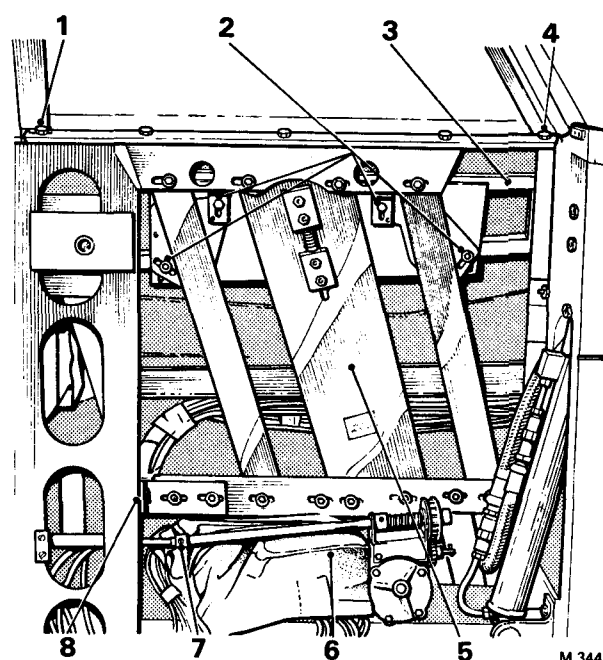

FIG. S60 REAR QUARTER WINDOW MECHANISM (Convertible Cars)
Convertible cars (see Fig. S60)
9. Scribe the profile of the window mounting brackets onto the lift mechanism bracket (*see Fig. S60*); ensure this is carried out accurately to facilitate assembly.
10. Remove the four 2 B.A. screws securing the quarter window to the lift mechanism (*see Fig. S60*); remove the window glass and frame.
2. Slacken the Allen type grub screw locking the junction block onto the flexible mechanical drive (see Fig. S60, item 7); disconnect the flexible drive at the junction block.
4. Remove the two 2 B.A. bolts and nuts securing the angled ends of the lower attachment brackets to the car body (see Fig. S60, item 8).
5. Remove the two 2 B.A. screws securing the waist attachment plate to the car body (see Fig. S60, items 1 and 4).